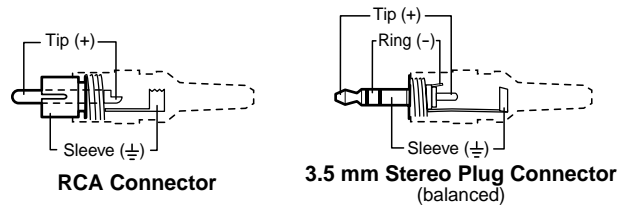

Figure 3. Input 6 Through input 8 Audio Connector Wiring
- ⑧ **Input 1 through Input 5 connectors** — Connect unbalanced stereo or mono audio sources (such as DVD players or VCRs) to these pairs (left and right) of RCA connectors for audio input.
- ⑨ **Input 6 through Input 8 connectors** — Connect unbalanced stereo audio sources (such as computers) to these 3.5 mm mini stereo jacks for unbalanced audio input (see figure 3 to wire the audio jack).